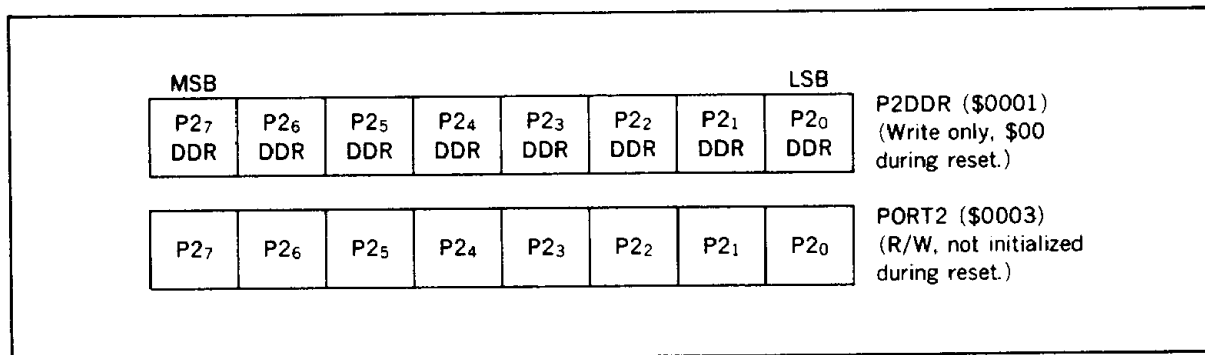

Figure 12. Port 2 Register and Data Direction Register
**Port 2** : Port 2 is an 8-bit I/O port (figure 11). Each bit of the DDR (\$0001) defines the data direction of the corresponding bit of port 2 (figure 12). Port 2 can drive one TTL load and 30 pF capacitance. It can produce 1 mA when  $V_{out} = 1.5 V$